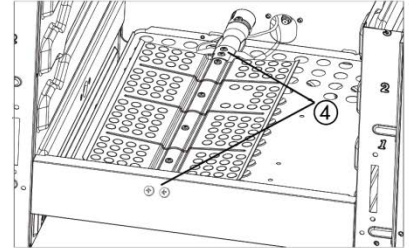

fig. 22
- Remove the burner securing screws (total 4) (fig. 22)